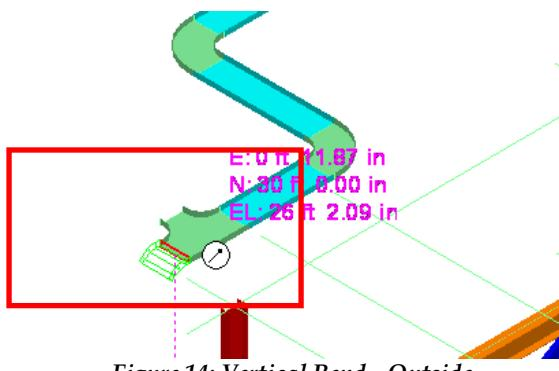

Figure 14: Vertical Bend - Outside
23. After selecting the **Part Number** in the **Select Part** dialog box, click **OK**. The vertical bend in the graphic view should resemble the highlighted section of Figure 14.